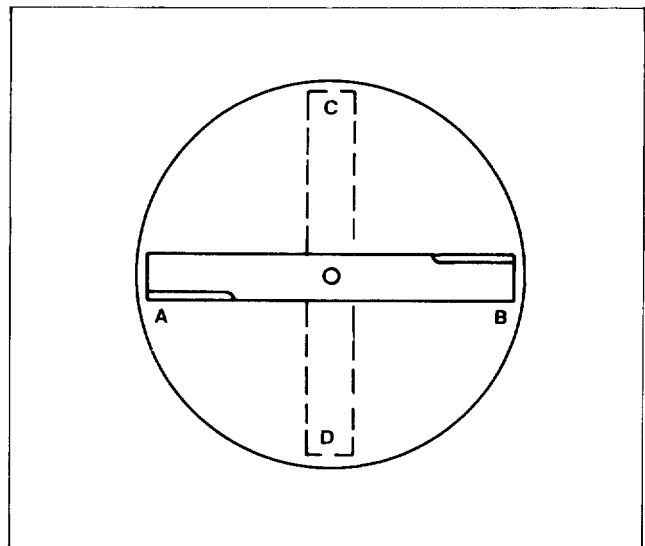
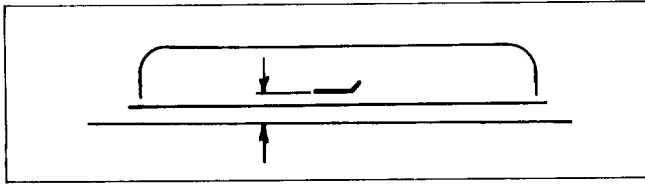

Figure 12
Figure 13
3. Position blade in the "A" position (Fig. 12) and measure from level surface to the bottom of the tip end of blade (Fig. 13).
4. Note measurement attained at "A", rotate blade to "B" position (Fig. 12), measure distance of blade to level surface and note dimensions (Fig. 13). Difference between dimension "A" and "B" should not exceed 1/8". If dimension exceeds 1/8", proceed to Steps 6 and add shims between spindle housing and bottom of cutting unit.